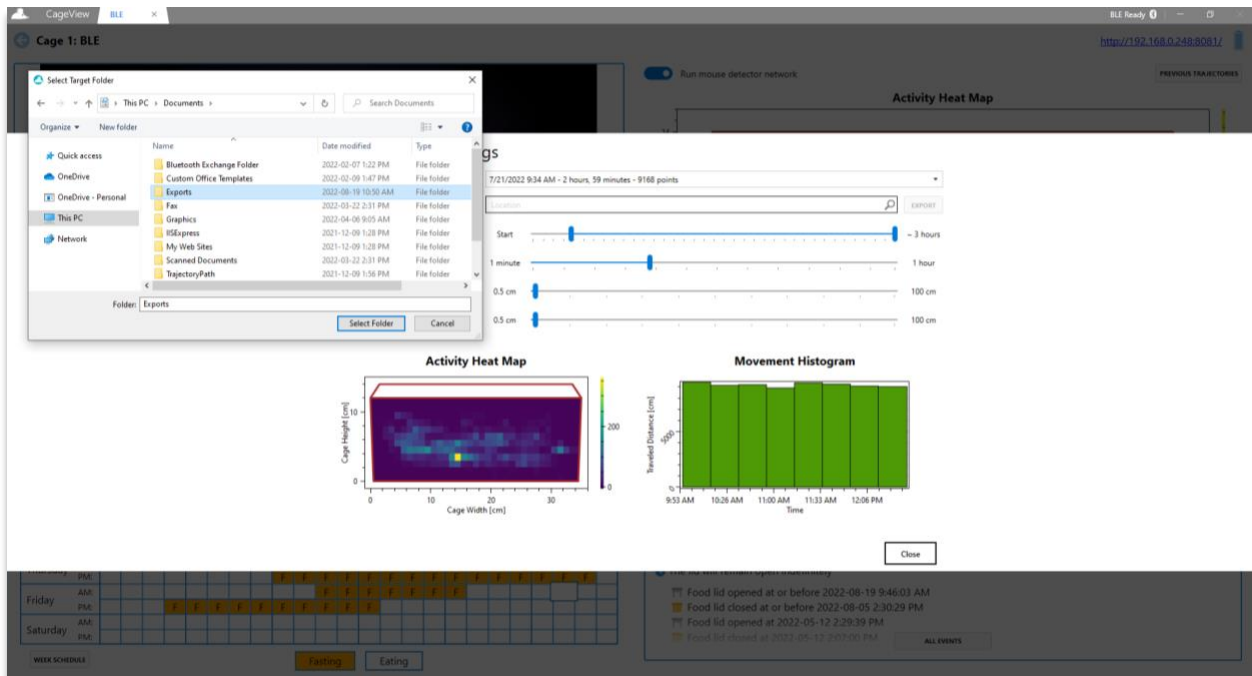

Figure 38. Selecting the folder for exporting
7.5.2. Click on the magnifier glass icon and select the folder to export the trajectory log-in, as shown in **Figure 38**.